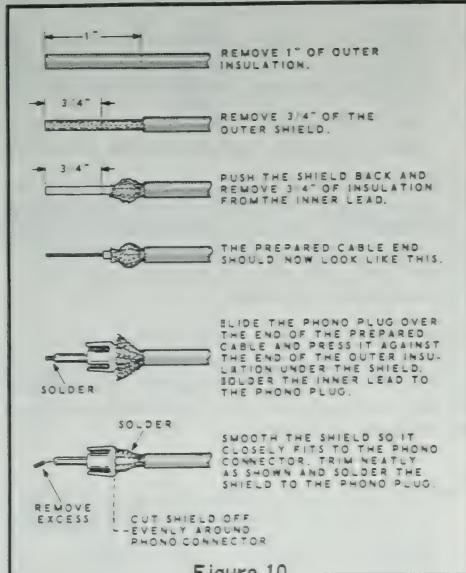

Figure 10
- () Attach a phono plug to one end of the length of coaxial cable as shown in Figure 10.